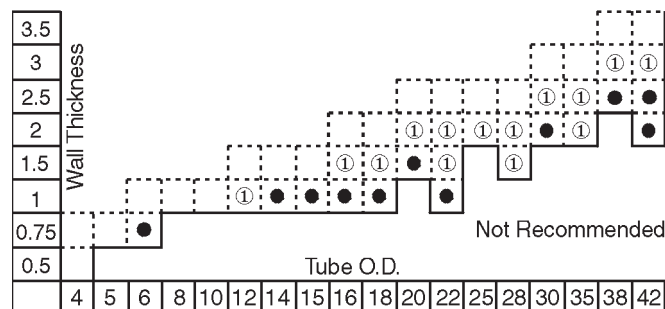

Fig. R47 — Recommended Tube Wall Thicknesses, Steel, SS
Steel tubes made of 37.4 or soft metal tubes can be checked in accordance with Figs. R47 and R48, respectively, to see if they require support sleeves; for plastic tubes, (support) sleeves are always necessary (see Page D21 for E type sleeves).
*Refer to Fig. R47 and R48 for required support sleeves.